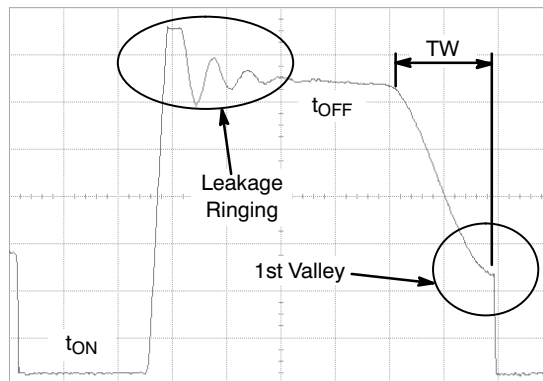
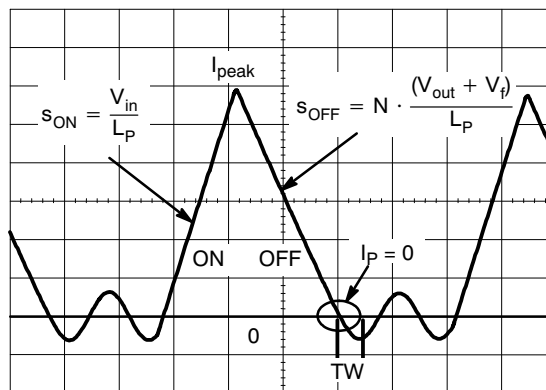

Figure 7. Typical Quasi-Resonance Waveform
Figure 8. Magnetizing Inductance Current Waveforms
Quasi-Resonance (QR) implies that the controller permanently monitors the transformer core flux activity and ensures Borderline Conduction Mode (BCM) operation. That is to say, when the switch closes, the current ramps up in the magnetizing inductance L_P until it reaches a setpoint imposed by the feedback loop. At this point, the power switch opens and the energy transfers from the primary side to the secondary (isolated) portion. The secondary diode is now biased and the output voltage “flies back” to the primary side, now demagnetizing the primary inductance L_P . When this current reaches zero, the transformer core is said to be “reset” ($\varphi = 0$). At this time, we can turn the MOSFET on again to create a new cycle. Figure 7 and 8 portray the typical waveforms with their associated captions. If a delay TW is introduced further to the core reset detection and before biasing the power MOSFET, the drain signal $V_{ds}(t)$ has the time to go through a minimum, also called valley. Therefore, when we will finally reactivate the power MOSFET, its drain-to-source voltage will be minimum, reducing capacitive losses but also its gate-charge value, since the Miller effect gets diminished at low V_{ds} .
The D flip-flop output is high, the MOSFET is enhanced and current grows-up in the primary winding. This is the *on* portion of Figure 8, left side of the triangle. When the driver output went high, its rising edge triggered a 8 μs timer. This 8 μs timer provides a true frequency clamp by driving the D-input of the flip-flop. Now, when the peak current reaches the level imposed by the feedback loop, a reset occurs and the flip-flop output comes low.
As one can see from Figure 7, a parasitic ringing takes place at the switch opening: this is the leakage inductance contribution. Unfortunately, this leakage can be detected as a core reset event if no precaution is taken. This explains the presence of the 3 μ s blanking timer that prevents any restart before the completion of this circuit. After leakage, the voltage applied over the primary winding is an image of the output voltage: this is the flyback level, or plateau level, equal to $N(V_{out} + V_f)$, with N the turn ratio between the primary and the secondary, V_{out} the output voltage and V_f , the secondary diode forward drop. We are on the right portion of Figure 8, OFF portion, the secondary current ramping down. If we now observe the voltage on the auxiliary winding, we will see something like what Figure 10 shows where the plateau lasts until the core is reset. At this reset event, a natural ringing takes place whose amplitude depends on the ratio N and V_{out} . A comparator observes this activity and detects when the voltage drops below ground, actually below 45 mV typically. In Figure 9, one can see the ESD protection arrangement which introduces a small capacitive component to Pin 3 input. This capacitive component associated with the demagnetization resistor can thus realize the necessary above TW delay.
Therefore, we can see that for various switching frequency values (dependent on the input condition if the output demand is fixed), the converter will permanently adjust the peak current I_P to keep the output power constant. By manipulating the slope definitions S_{ON} and S_{OFF} (see Figure 8), we can show that the peak current is defined by: